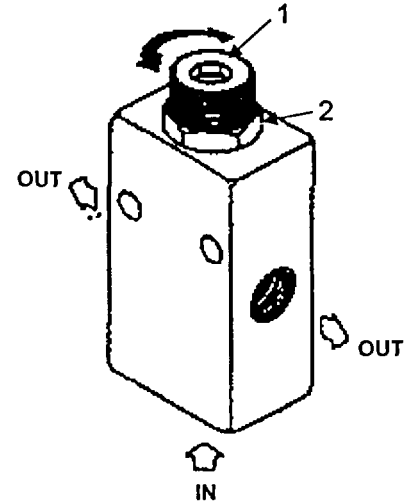

Figure 4-13. PMV
d. To readjust the pressure setting loosen the locking ring (Figure 4-13, Item 2), and using a hex key, turn adjusting screw (1) clockwise to increase pressure, counter-clockwise to reduce pressure